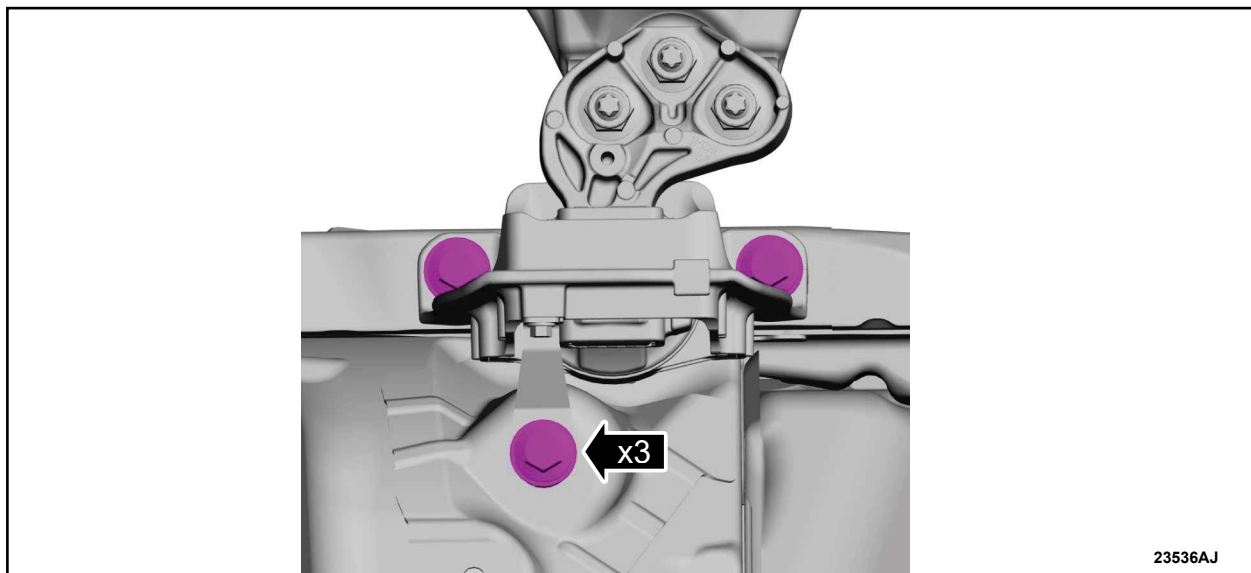

FIGURE 40
48. Tighten the engine mount bolts. See Figure 40.